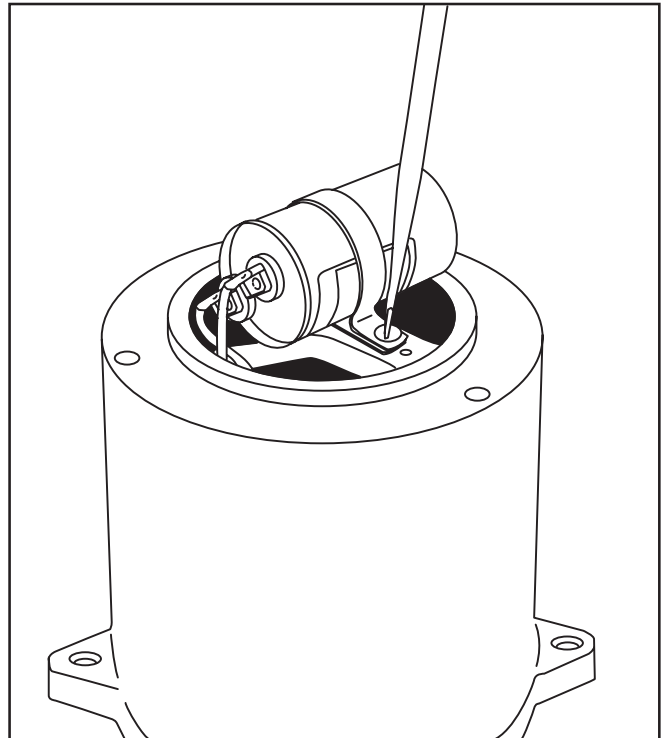

Fig. 11
4. Remove capacitor clamp and slide out capacitor. Replace with new capacitor and re-connect. Fig. 11